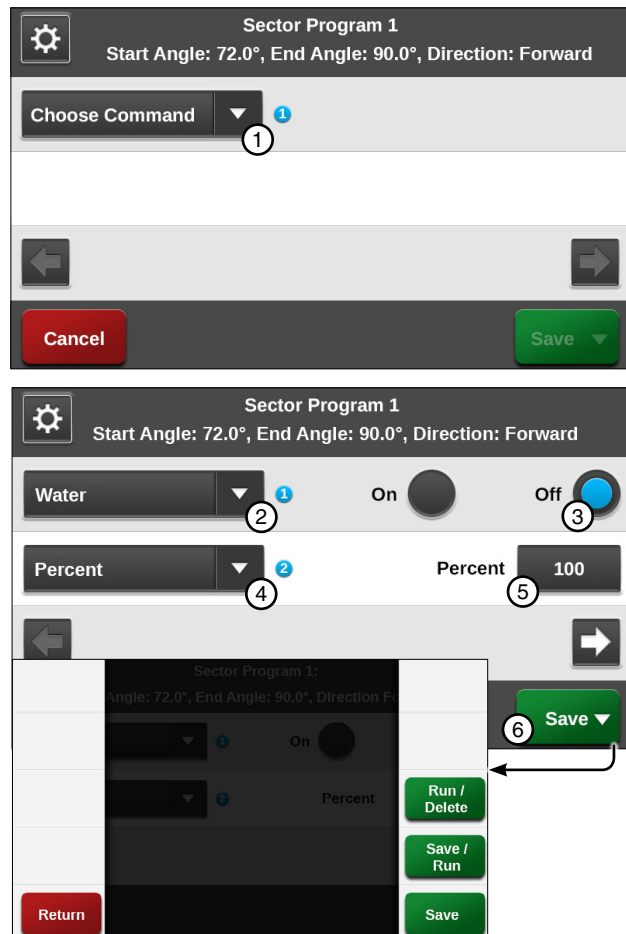

Figure 148-1 1. Choose Command Drop-Down 5. Percent
- a) Select the **Choose Command** drop-down menu and choose **Water**. Refer to Figure 148-1.
12. Finish the program by selecting one of the following. Refer to Figure 148-1.